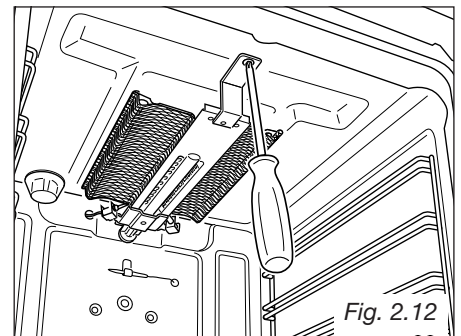

Fig. 2.12
- Remove the burner by unscrewing the front screw (fig. 2.12). Gently suspend the burner as shown in figure 2.13. Be careful not to damage the wire of the electric ignition and the probe of the safety valve.